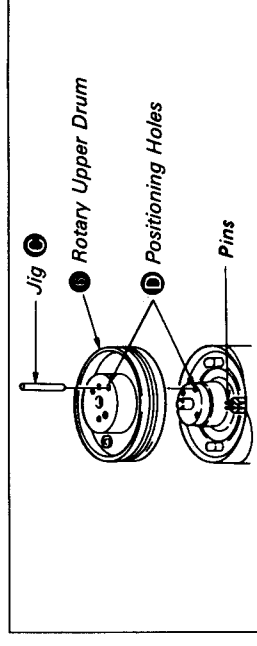

Fig. 7-47.
- 2) Insert Jig ❸ in the positioning hole ❹ so that the holes of the rotary upper drum ❶ and flange coincide. Lightly insert the rotary upper drum in the drum shaft while aligning their positions. (See Fig. 7-47.) (Check that pins are projecting above the holes on the printed circuit board of the rotary upper drum. When the pins are caught, correct using tweezers, etc.)